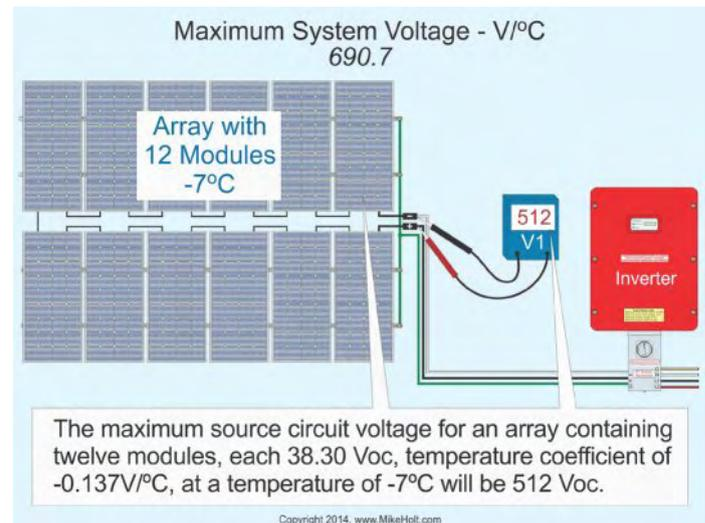

Figure 690-31
**Example:** Using the manufacturer's temperature coefficient of  $-0.137\text{V}/^{\circ}\text{C}$ , what's the maximum PV source circuit voltage for twenty-three modules each rated Voc 38.30, at a temperature of  $-7^{\circ}\text{C}$ ? Figure 690-31